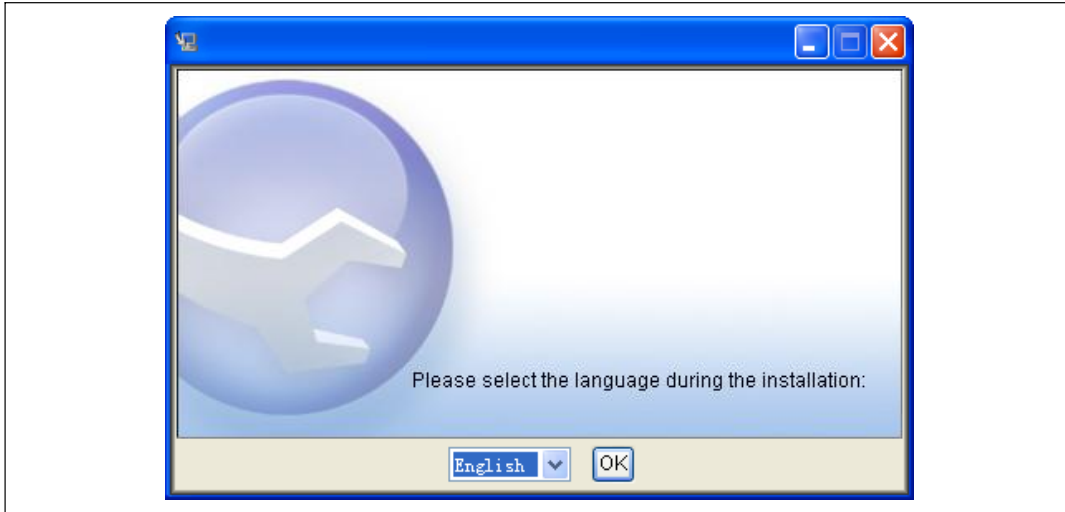

Figure 8. Selecting the Language for Installation
- 2 Select the language for the software and click **OK** (see Figure 8).